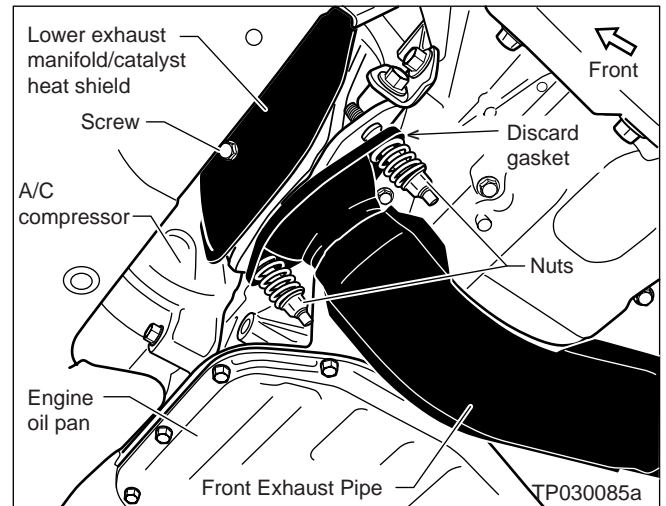

Figure 1
- Figure 1 is an example of the ECM Part Number printout.
1. Remove the two nuts that hold the front exhaust pipe to the exhaust manifold /catalyst (see Figure 1). Discard the old gasket. Replace with a new gasket during reassembly.